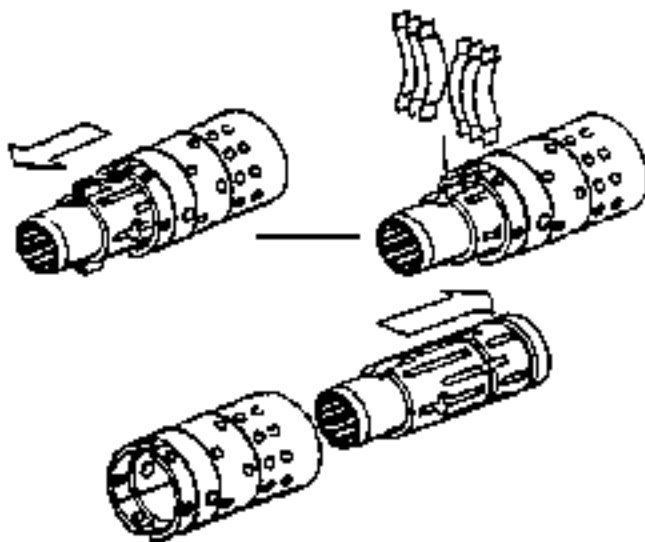

Figure 10
18. Push spool partially from control end of sleeve, then remove 6 centering springs from spool carefully by hand, see Fig. 10.
19. Push spool back through and out of sleeve, see Fig. 10. Rotate spool slowly when removing from sleeve.